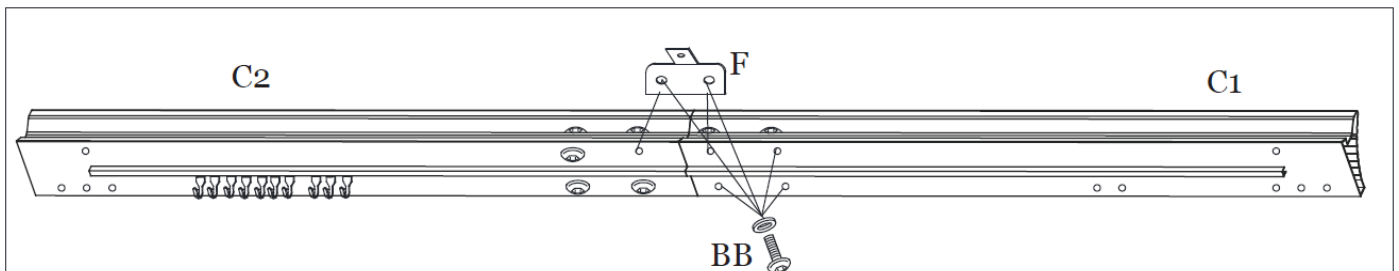

Figure 2-3
Step 2C: Attach Lintel (C1) to Lintel Connector (G2) using Bolts (BB). Attach Lintel Brackets (F) to Lintel (C1 and C2) using Bolts (BB). **Tighten all Bolts.** Repeat Step 2A to 2C for remaining Lintels (C1 and C2). See Figure 2-3.